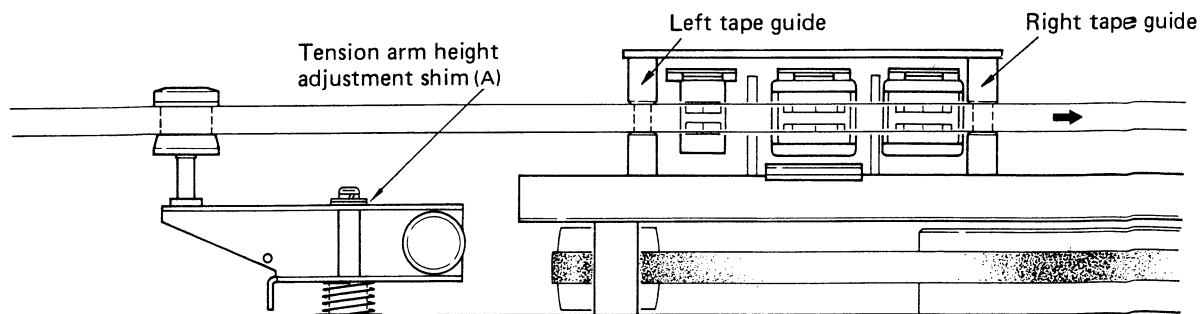

Fig. 2-9. Tape Path Adjustment
2. If curling at the left tape guide is evident, adjust the height of the guide by inserting a shim of appropriate thickness ($\phi 5 \times \phi 8 \times 0.5^t$ or 0.25^t) into "A" of the left tension arm. The same procedures should be followed for the right tension arm height adjustment. See Fig. 2-9.